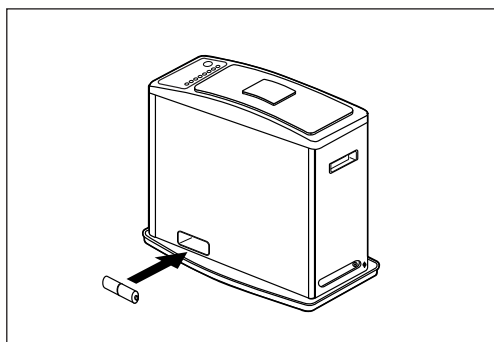
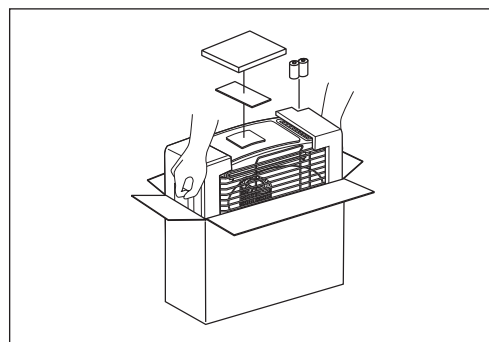

Fig. 12
Fig. 13
Carefully following the instructions for storage given below will insure that your heater will operate efficiently and safely next season (Fig. 12/ Fig. 13).
- Remove the batteries (Fig.12) from the battery case before storing the heater to prevent leakage and corrosion. Remove the 5 cabinet screws and lift off the cabinet and grille assembly. Remove the burner. Remove the wick adjuster from the fuel reservoir. Thoroughly dry the Inside of the fuel tank. Using a screwdriver and/or a brush, remove any carbon, tar or soot that might have accumulated on the wick adjuster, wick guide or burner.